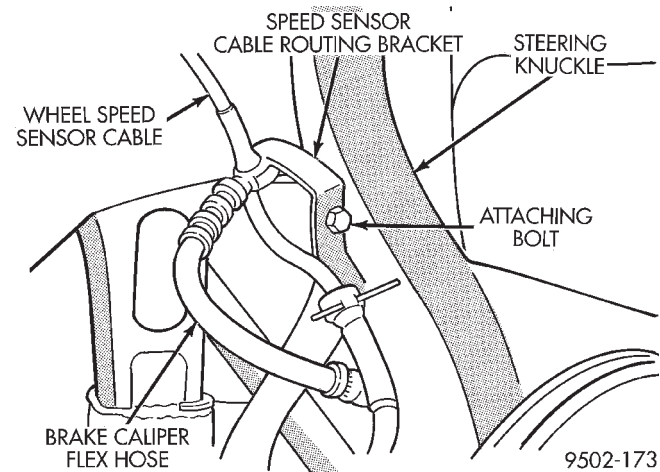

Fig. 8 Wheel Speed Sensor Cable Routing Bracket
(11) If equipped with antilock brakes, remove the speed sensor cable routing bracket from the steering knuckle (Fig. 8).